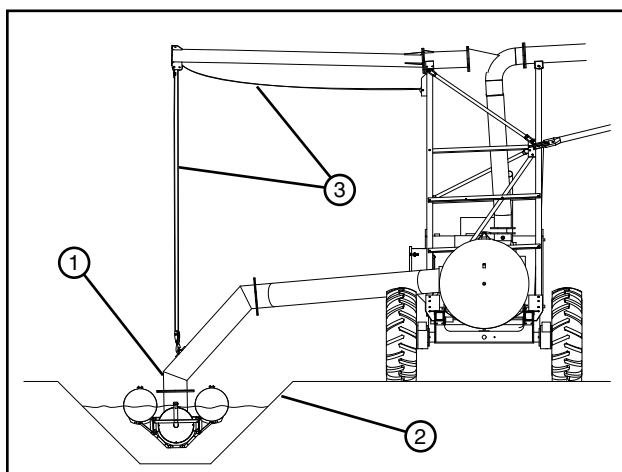

Figure 62-3 1. Suction Inlet 3. Lift Cable
9. Check the voltmeter reading and verify that the generator is producing the correct Nominal Supply Voltage for this machine. See Figure 62-3.